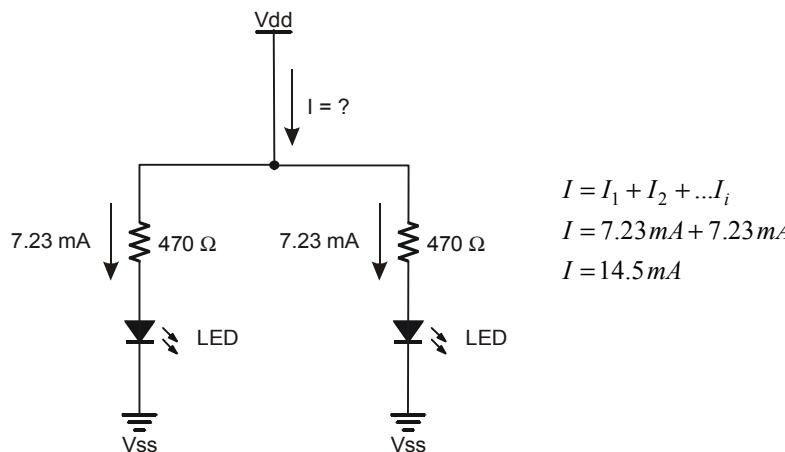

Figure F-4
Let's say you turned two LEDs on at the same time. That means that inside the BASIC Stamp, it is supplying the circuits as shown in Figure F-4. Have we exceeded the 20 mA limit? Let's find out. Remember that the simplified version of Kirchoff's Current Law says that the total current drawn from the supply equals the current supplied to all the circuits. That means that I in Figure F-4 has to equal the total of the two currents being drawn. Simply add the two current draws, and you'll get an answer of 14.5 mA. You are still under the 20 mA limit, so your circuit is a safe design.
- ✓ Repeat the exercise shown in Figure F-4 with one of the resistors at 470Ω and the other at $1 k\Omega$. Answer: $I = 7.23 \text{ mA} + 3.4 \text{ mA} = 10.63 \text{ mA}$.